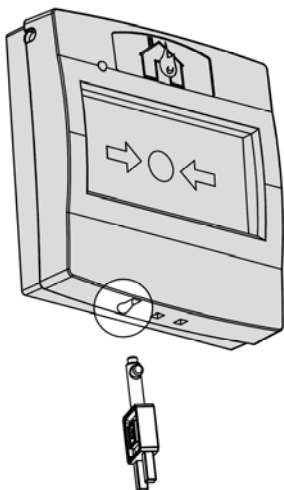

Figure 9
2. Open the protected flap and insert the supplied reset key into the key hole. (Figure 9).